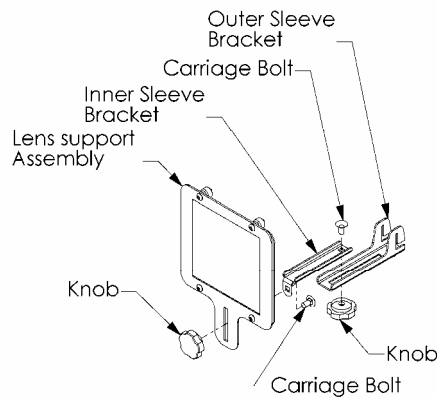

Figure 3
2. Assemble Lens Support Assembly to components as shown in Figure 3.